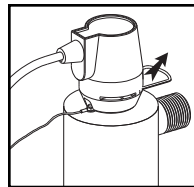

FIGURE 2A
Remove the lamp connector by sliding the metal retaining ring (Figure 2A) away from the body of the connector. Remove connector
- Once the lamp is fully seated on the connector, slide the connector over the aluminum retaining nut. Make sure the metal retaining ring on the connector is pulled away from the body of the connector in order that the connector may slide fully over the retaining nut. Once the connector is located fully over the retaining nut, slide the metal ring back in to lock the connector in place (Figure 2E). As this connector is keyed to the reactor chamber, make sure the notch on the connector (Figure 2A) is located over the ground lug located on the reactor chamber.